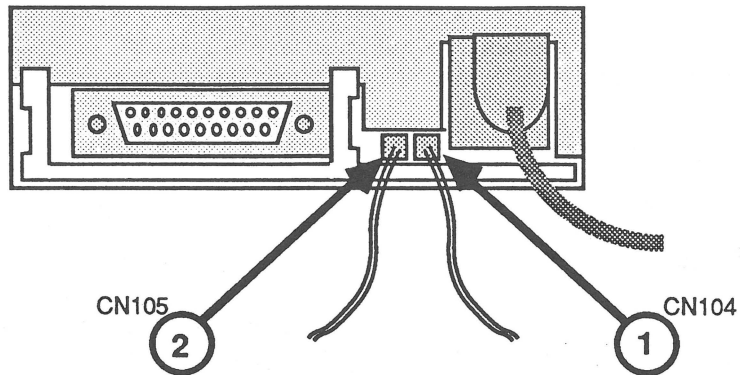

FIGURE 2
7. Using needlenose pliers if necessary, carefully disconnect the LED cable from CN104 on the drive assembly (Figure 2, #1).
8. Disconnect the eject button cable from CN105 on the drive assembly (Figure 2, #2).
1. Reconnect the eject button cable to CN105 (Figure 2, #2).
2. Reconnect the LED cable to CN104 (Figure 2, #1) on the drive assembly.